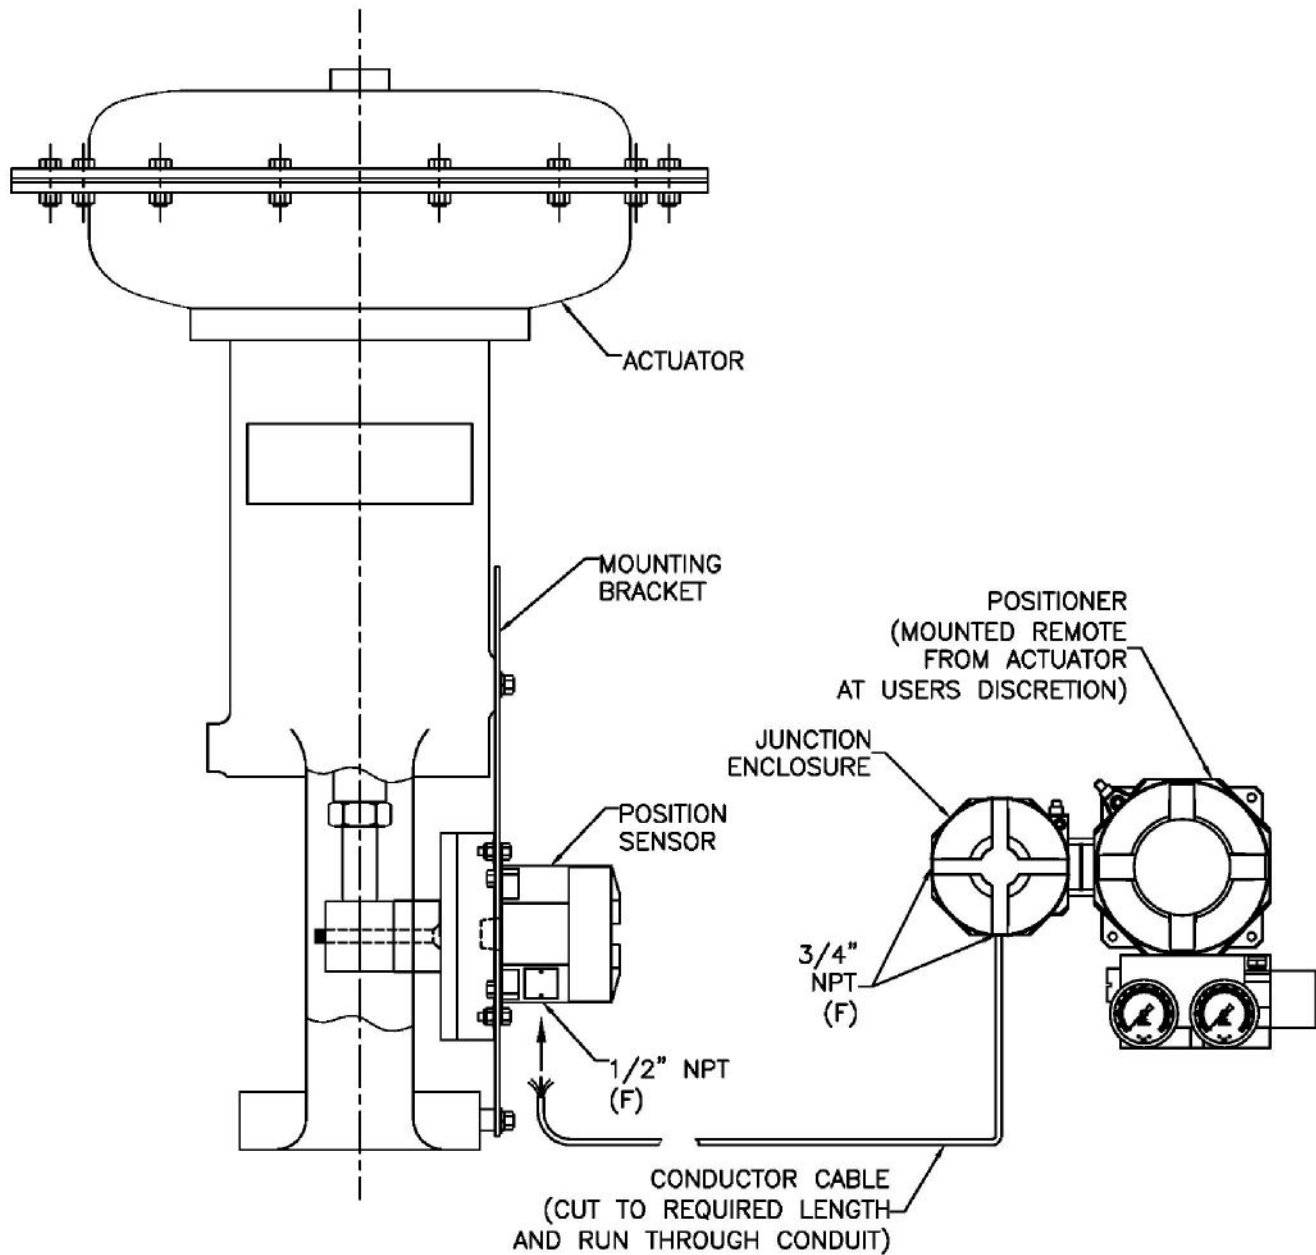

Figure 3-13
7. Wire the cable from junction enclosure to remote positioner as shown in Figure 3-13 & 3-12.